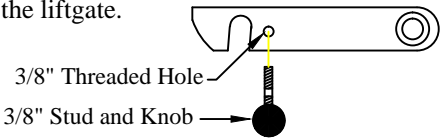

Figure 17: Original Series platform latch knob.
2. **Push** the hidden "Power On" switch (Figure 17). The amber "Power On" LED will illuminate.
- 1. Install** the two (2) knobs on the platform latches (Original Series only) see (Figure 17).